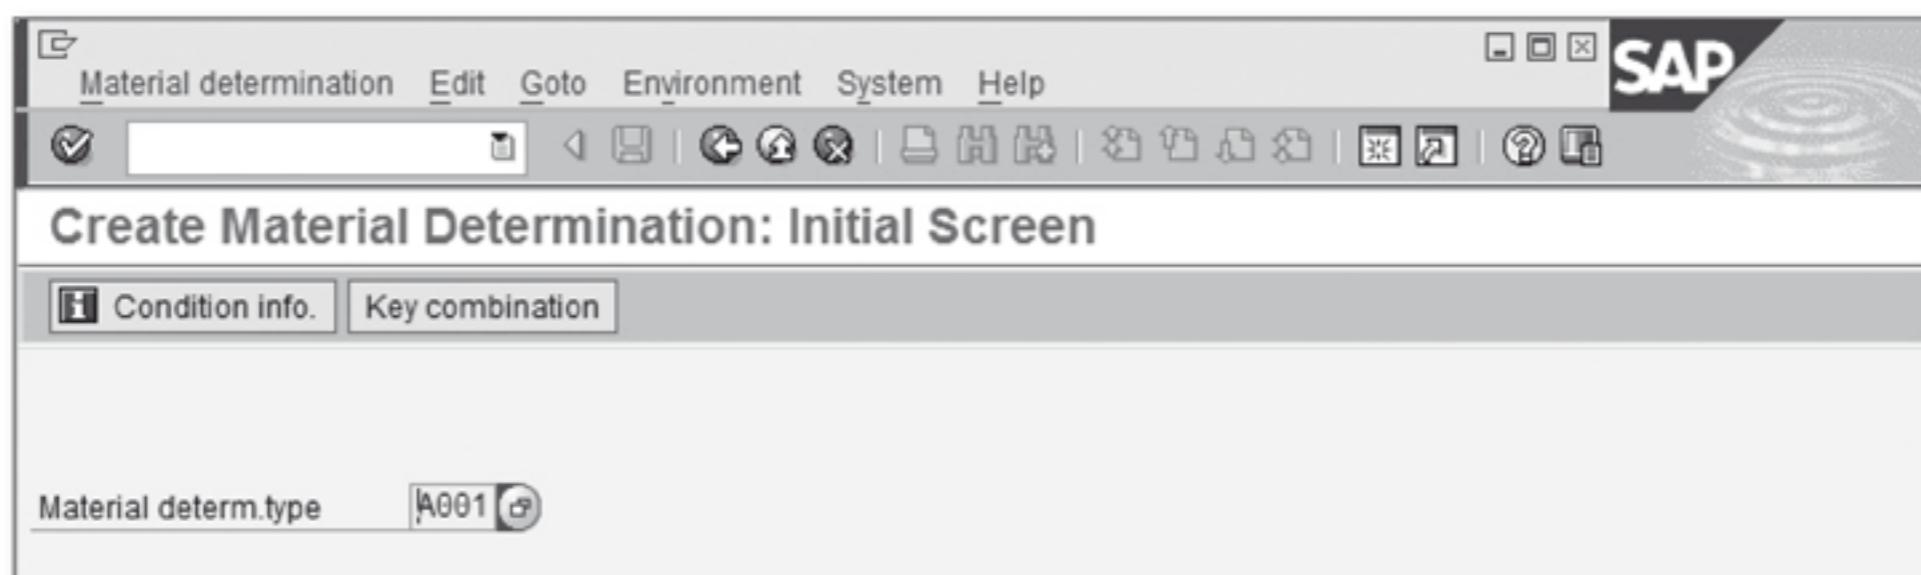

Figure 2.11 Create Material Determination Initial Screen
2. On the initial screen, choose the determination type by selecting the A001 Material Entered (Figure 2.11). After selecting the material determination type, press **Enter** to continue to the next screen.